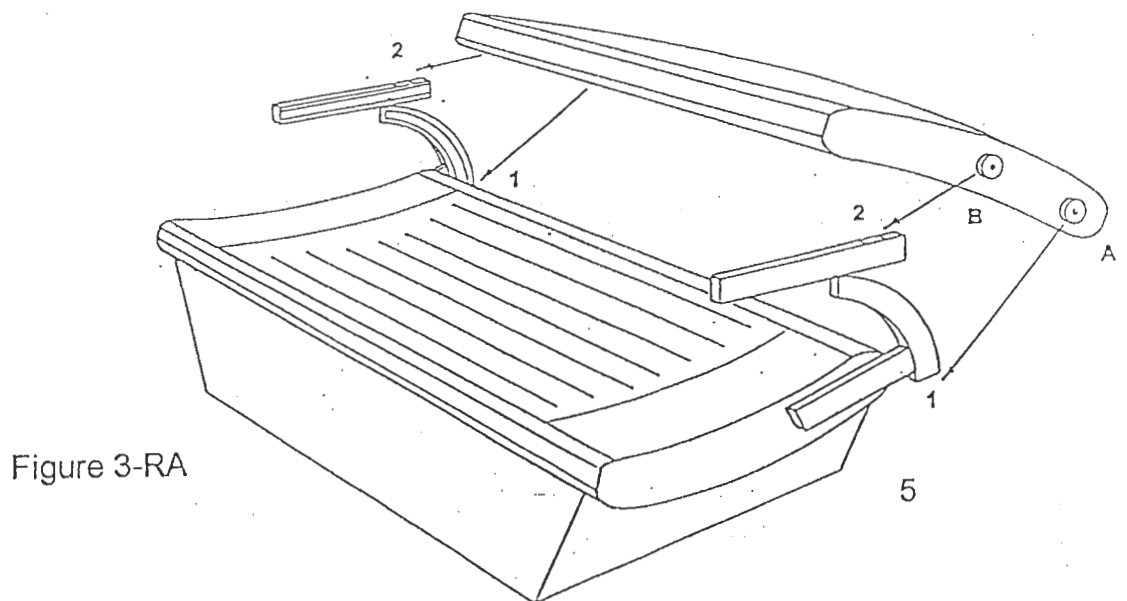

Figure 3-RA
The following exercise will require two people, even though the canopy is relatively light weight. Hold the canopy in a vertical position from back to front (figure 3-RA) and simultaneously insert the rear rollers (A) into the rear curved groove (1) through the opening at the bottom of the arm. Still holding the canopy, lift upward evenly (rear rollers (A) will be rolling upward in the rear groove) until the center rollers are higher than the top of the roller arm. Tilt the unit forward, and simultaneously insert the center rollers (B) in the horizontal groove through the opening (2) in the top of the arm, and pull canopy forward, as you are closing it. The canopy should now roll in the grooves, and easily open and close.